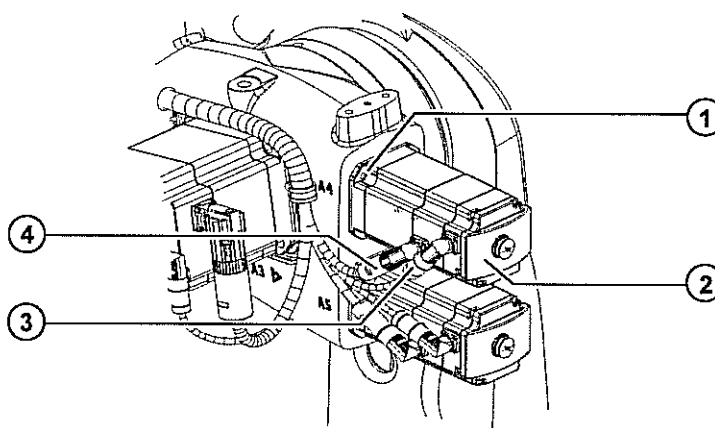

Fig. 12-12: Installing motor A4
7. Clean the mounting surface (>>> Fig. 12-12) for motor A4 on the arm.